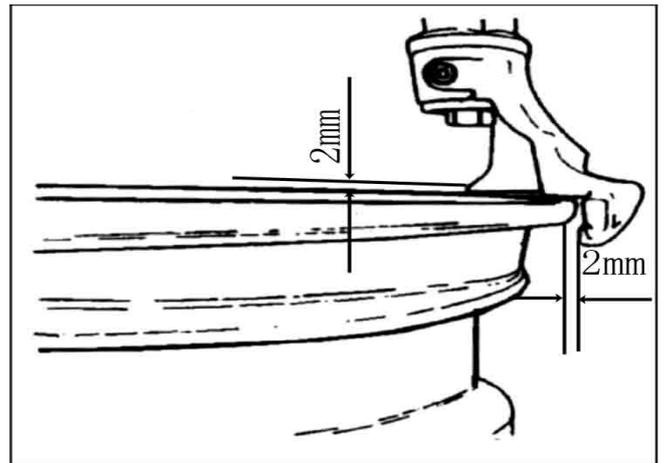

FIG 19
4.1.3 Position the hexangular shaft (FIG 2-3) to the working position to make the demount tool close to the rim of the wheel. And use the hand wheel (FIG 7-2) to push against the rocker arm and then use the lock handle(FIG 2-17) TO LOCK. The demount tool will automatically move a little of gap (FIG19).